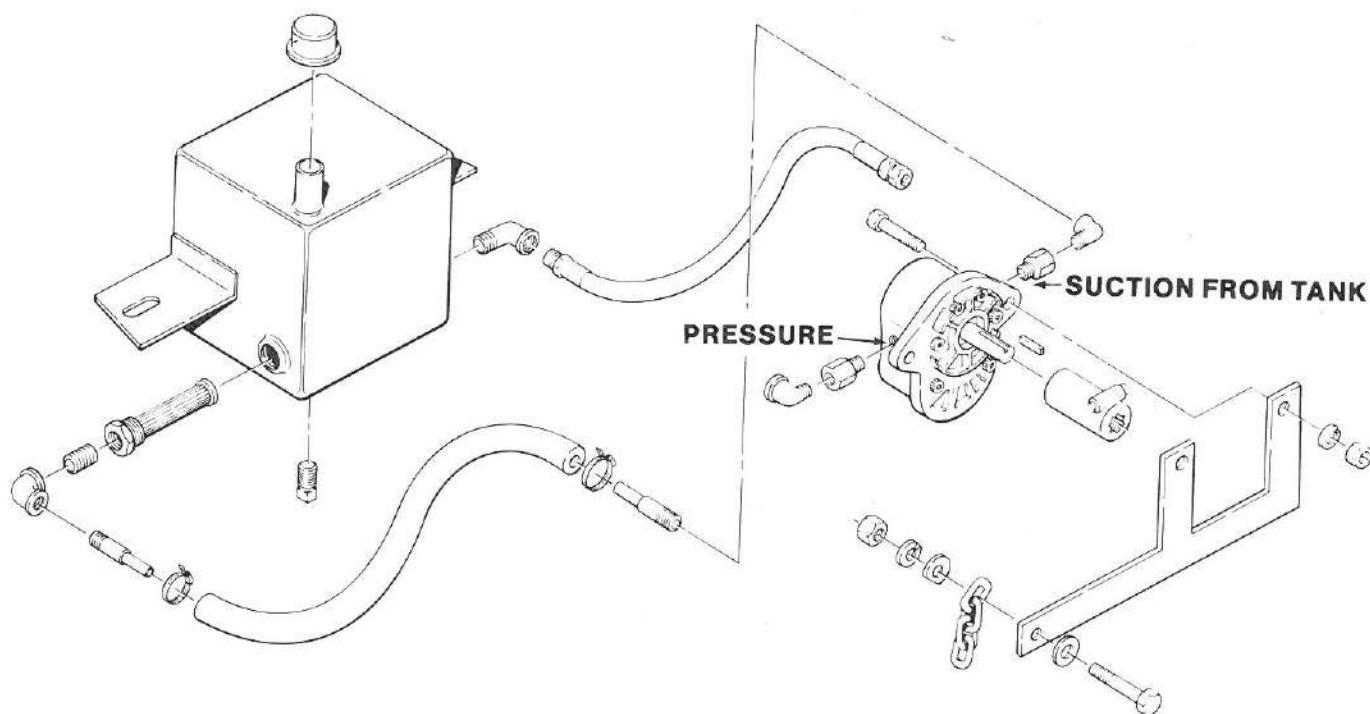

Figure 1
Install the independent hydraulic system onto the backhoe according to the following procedures. Refer to Figure 1 and page 35 of this manual for the identification of the parts. During assembly, use pipe compound on all pipe fittings. None is required on the O-ring fittings.
- F. Attach the O-Ring suction fitting and the 3/4" street ell to the suction port of the pump per illustration in Figure 1.
- J. Attach the free end of the torque chain to either the chain tab on the backhoe frame (Figure 1) or a fixture of the tractor. Use the remaining 3/8" hardware in the same manner as above. Imagine a plane perpendicular to the ground that passes through the torque bar and separates the tractor from the backhoe. It is very important that the chain is attached to a point located **ON** this plane **OR** on the **TRACTOR** side of this plane. By attaching to such a point, the chain applies pressure on the pump so that it is not pulled off of the PTO adapter during operation.
- K. Attach suction hose to the reservoir and pump using the 3/4" hose nipple and 1" hose clamps as per Figure 1.